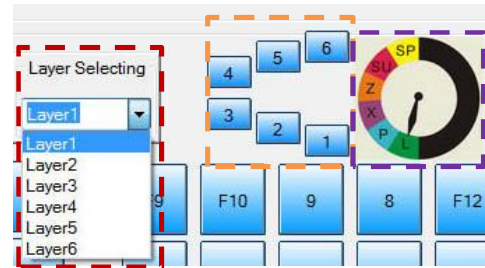

Figure 2.1.2
① It indicates 6 electronically lock key, it can be used for layer key as well as ordinary key, *Figure 2.1.2*
② The figure of electronically lock is to indicate the layer, L (Layer 1), P (Layer 2), X (Layer 3), Z (Layer 4), SU (Layer 5) and SP (Layer 6)
③ It is a layer select drop-down menu. Selected Layer1 indicates the Programming table is in layer1. If selecting Layer2, the programming table is in Layer 2.